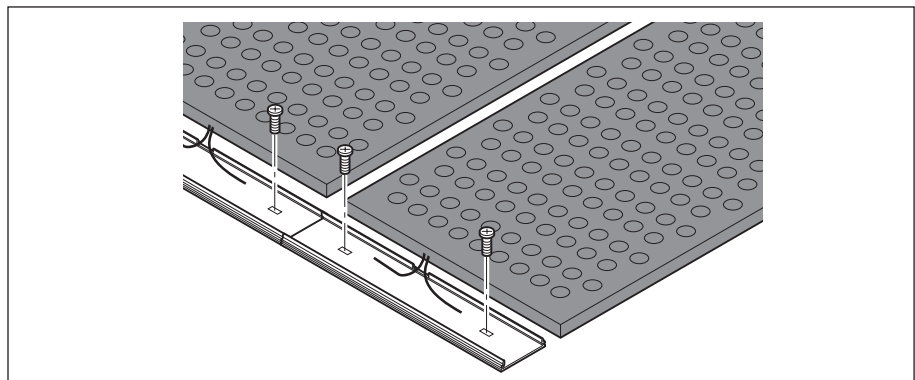

Fig. 5-3: Installing cable conduits
2. Arrange lower sections (1) of the cable conduits along the drawn line. Observe the following:
- the cut-out in the cable conduit for the cable must face in the direction of the Safety Mat (see Fig. 5-3, pg. 9)